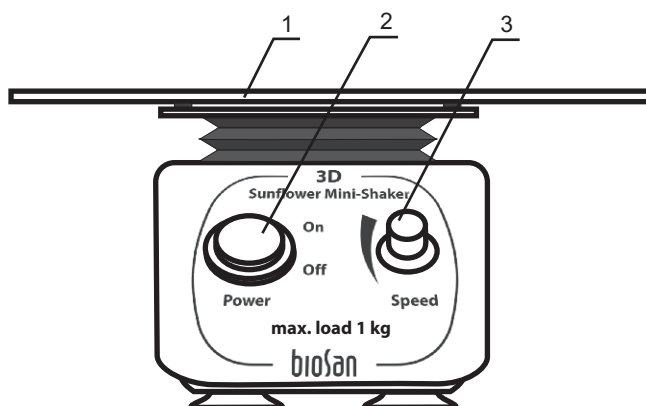

Fig.1 Control panel
- 4.2. Place samples on the unit platform (Fig. 1/1).
- 4.3. Switch **On** the **Power** switch (Fig. 1/2).
- 4.4. Use the speed control knob (Fig. 1/3) to adjust the shaking speed to the required setting.